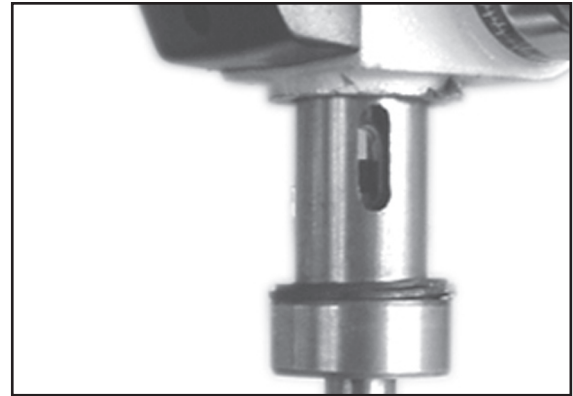

Figure 14
2. Lower the spindle until the slot in the spindle is exposed. (Fig. 14)